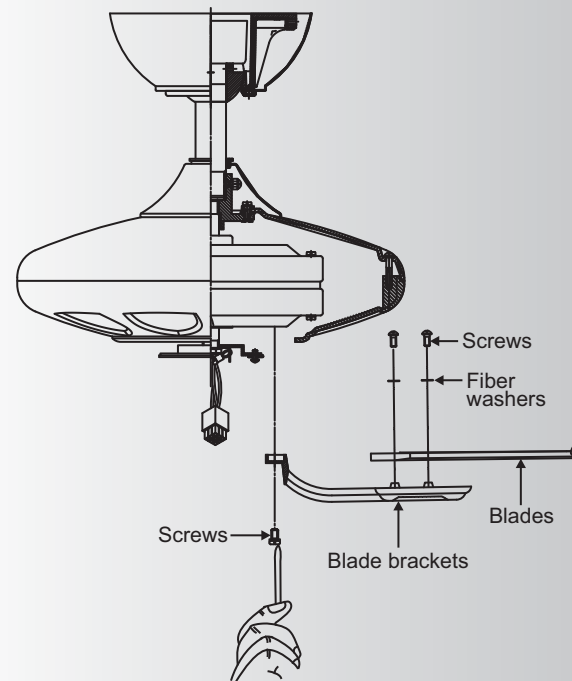

Fig. 14
Step 1. Attach a blade to a blade bracket using the screws and fiber washers provided. (Fig. 14)
Step 2. Attach each blade assembly to the motor using the "Pre-Installed" mounting screws in the blade bracket. (Fig 14)